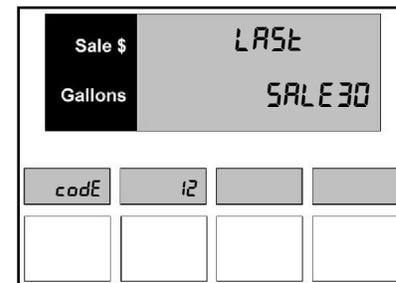

Figure 12.2 – Last Sale - Timeout
4. To change the setting, use the **0** through **9** buttons on the keypad to enter a value in seconds as shown in *Figure 12.2*. **Note:** If an error is made press the correct number. The new number replaces the error.